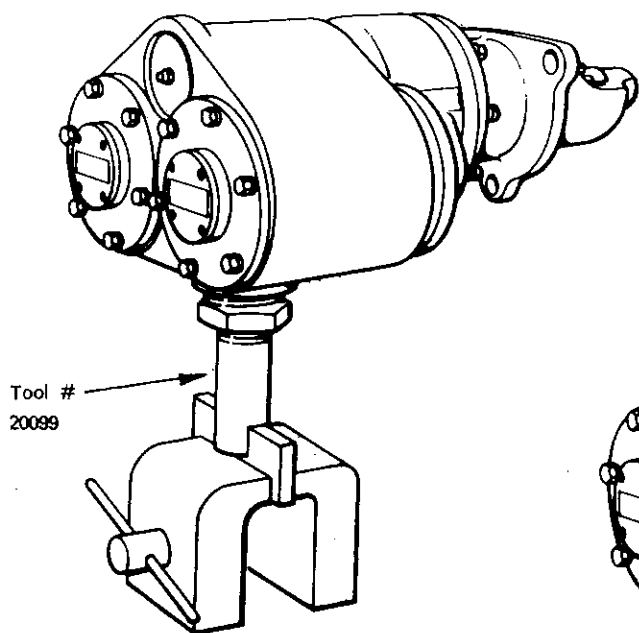

Figure No. 2.1 - Mounting the Starter
1. Install a 1¼" to 2" pipe bushing on StartMaster Tool No. 20099. Insert the tool into the inlet air connection of the SM500 air motor and mount the starter in the vise as shown in Figure No. 2.1.